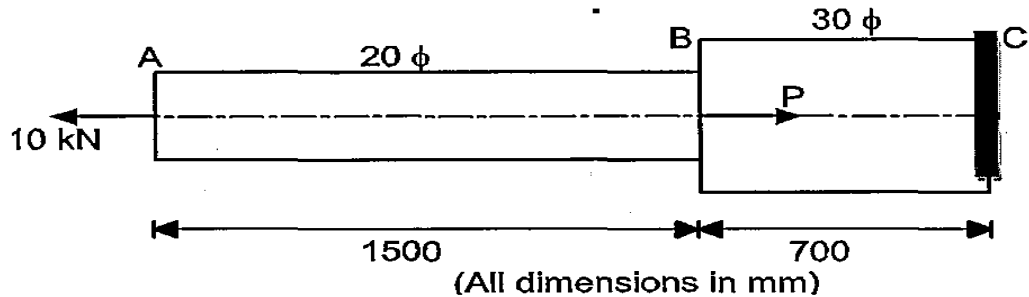

Fig 2
- b) For the given bar subjected to axial forces as shown in Fig 2, determine the displacements at B and A. Consider end C as fixed. Also find the corresponding strains and stresses. Take $P = 50 \text{ kN}$. $E = 200 \text{ GPa}$ [14]